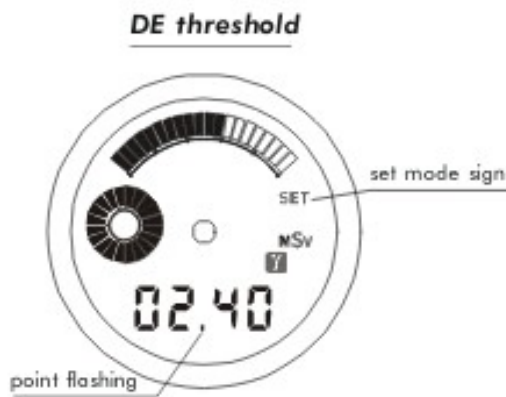

Fig. 2.10
To set the DE threshold switch ON the DE indication as described in paragraph 2.4.1. Then press and hold the “**set**” button (2), the LCD will indicate the preset DE threshold value with a dividing “.” (point) flashing, and the set mode sign and the completely filled in circular analogue scale will be displayed (Fig.2.10).